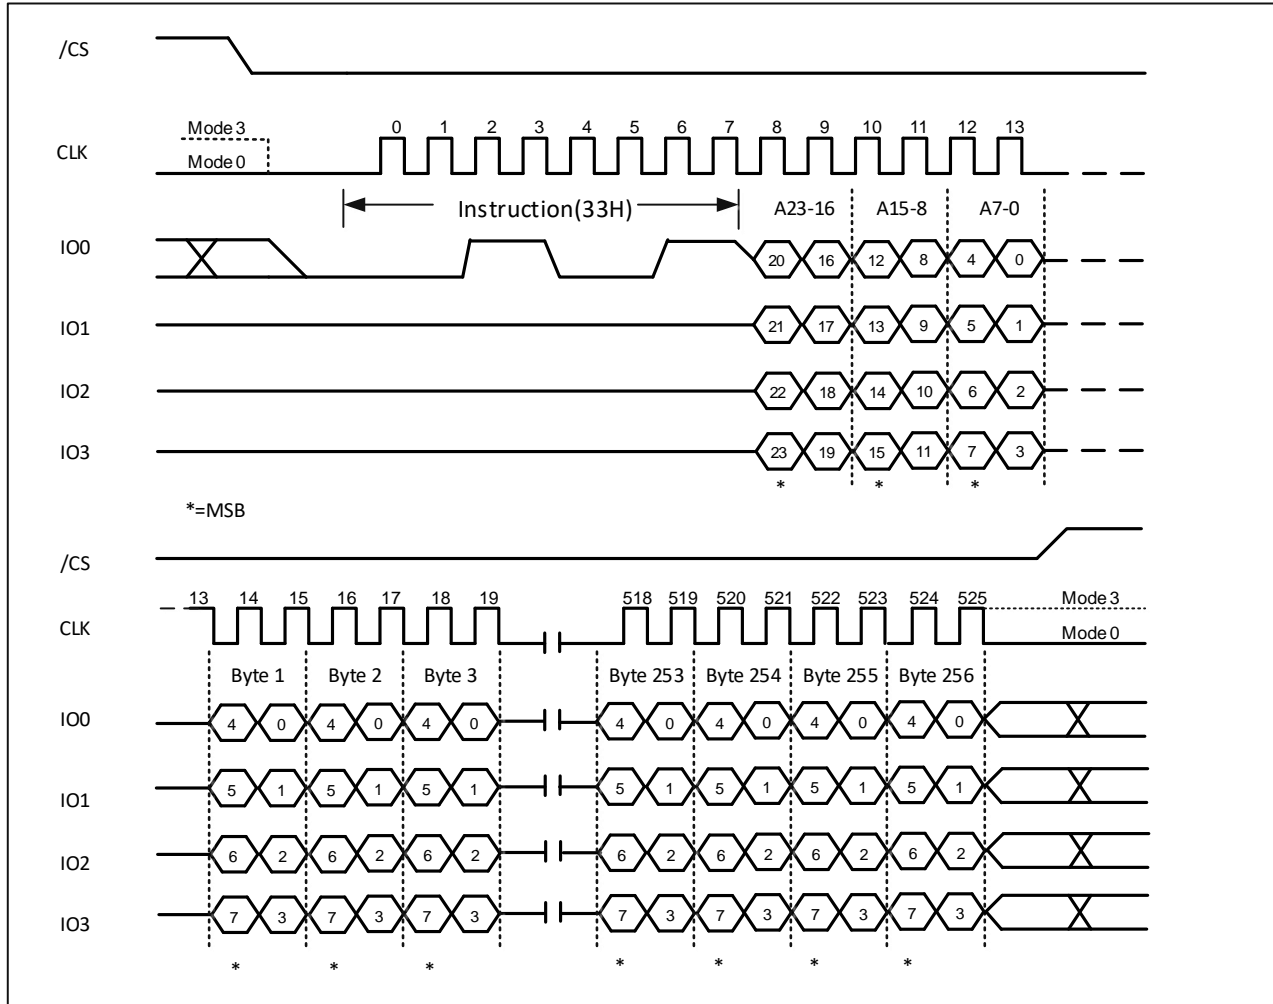

Figure 32. Quad Page Program Instruction (SPI Mode only)
The Quad Page Program (33h) instruction is similar to the Quad Input Page Program (32h) instruction except that address and data bits are both input and output through four pins IO0, IO1, IO2 and IO3. The Quad Page Program can improve performance for PROM Programmer and applications that have slow clock speeds <5MHz. Systems with faster clock speed will not realize much benefit for the Quad Page Program instruction since the inherent page program time is much greater than the time it take to clock-in the data. To use Quad Page Program the Quad Enable (QE) bit in Status Register-2 must be set to 1. The Quad Page Program instruction sequence is shown in Figure 32.